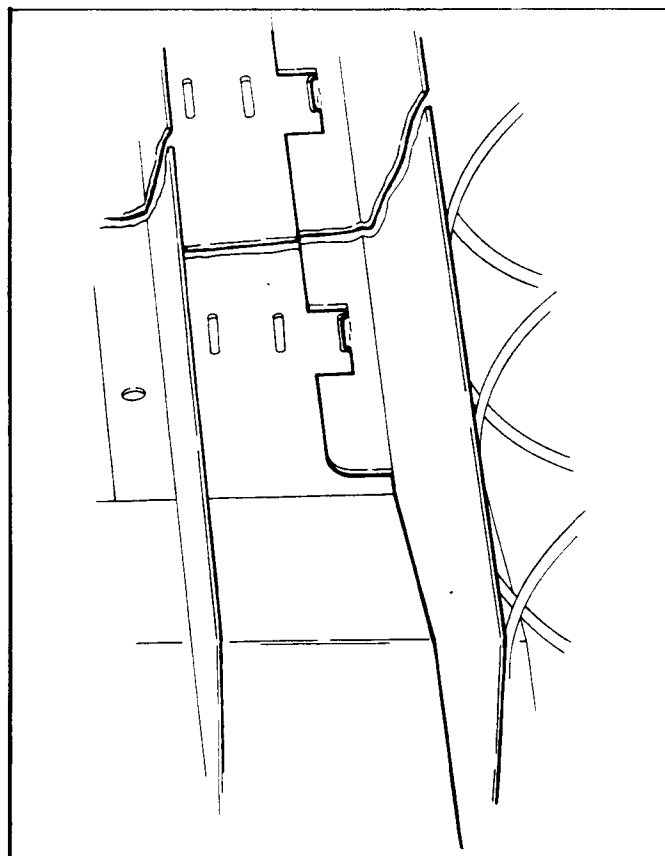

Figure 4. ALIGNMENT OF MOVEABLE PRODUCT SPACERS.
6. **PRODUCT SPACERS—5 SELECTION SHELF:** A product spacer is used to reduce the width of the product area and should be used on any 5-selection snack shelf where the product width is 4½" or less. Spacers should fit within 1/8" of the product but should not fit tight against the product. There are three positions in each snack space where these spacers can be placed. To install the spacer, align the lock ears (on the lower edge of the spacer) with one of the three sets of slots (one front and one rear). (See Figure 4). Push the spacer to the rear to allow the ears to enter the slots, then allow the spacer to move forward. Be sure the ears are in the same set of slots, front and rear. (See Figure 4). Continue loading all spirals adjust with spacers where needed in the top shelf. Return the top shelf to the vend position and following this procedure load the remainder of the large spiral shelves. The shelf divider separating the right (lock side) column from the next column is movable to allow vending of products wider than 5½" in the second column. If this is used the right column must be used to vend a narrower product.